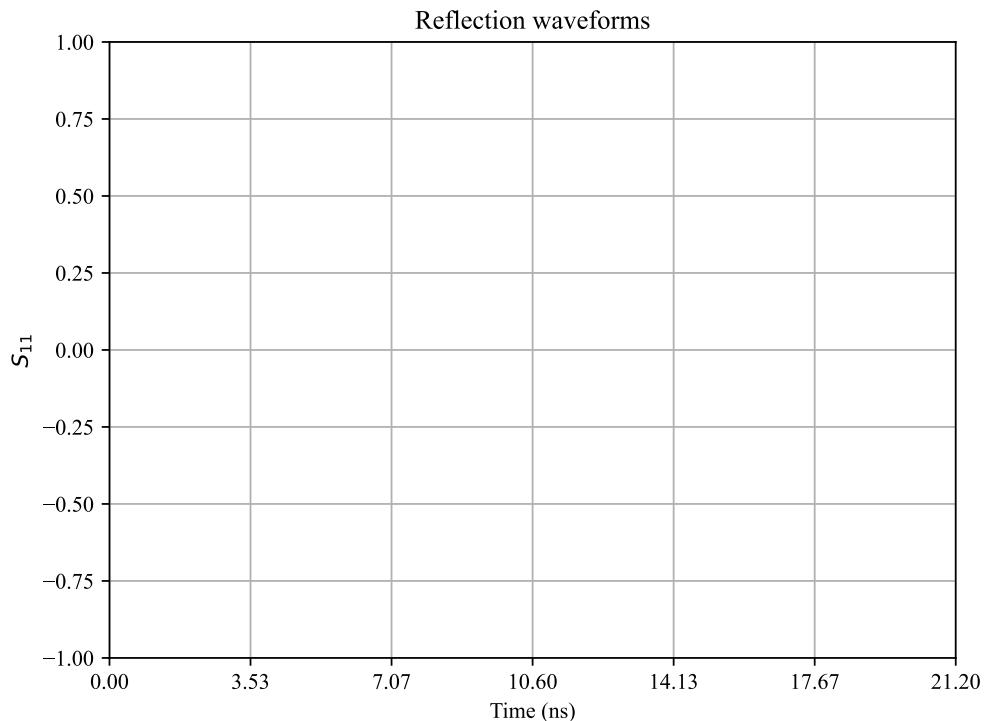

Figure 9: Open, short, and load reflection waveforms (to be completed).
6. *(Lab)* Complete fig. 9 below with a sketch of the reflection waveform (S_{11}) only (do not copy S_{21}). Indicate the waveform with “open.”
7. *(Lab)* Connect the **short** calibration standard. Complete fig. 9 with a sketch of the corresponding reflection waveform, and indicate the plot with “short.”
8. *(Lab)* Connect the matched **load** calibration standard. Complete fig. 9 with a sketch of the corresponding reflection waveform, and indicate the plot with “load.”